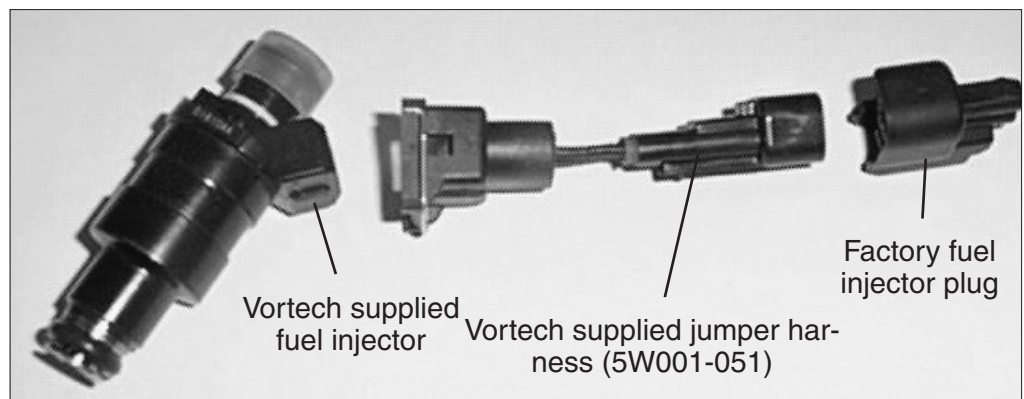

Fig. 5-a
- B. Disconnect the eight (8) fuel injector wiring clips and retainers from the fuel injectors. Release any residual fuel pressure from the rail by opening the schrader valve on the rail. Have a fire extinguisher nearby and use extreme caution.
- C. Remove the bolts holding down the factory fuel rail onto the intake manifold. Lift up on to the rails evenly, removing all eight (8) injectors.
- H. Use supplied jumper harnesses to connect the factory fuel fuel plug to the newly installed fuel injectors (see *Fig. 5-a*).